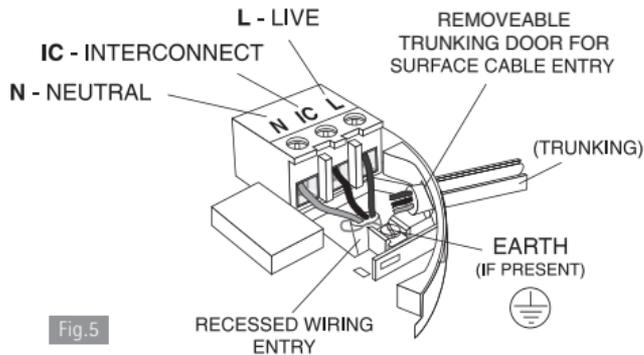

Fig.5
- IC: Interconnect** - see figures 5 and 6 and further information in Section 2.7.
4. If the mains wires are recessed, bring the wires through the rear hole in the mounting plate as shown in Figure 5.
- position the mounting plate so the cable trunking is as shown in Figure 5.